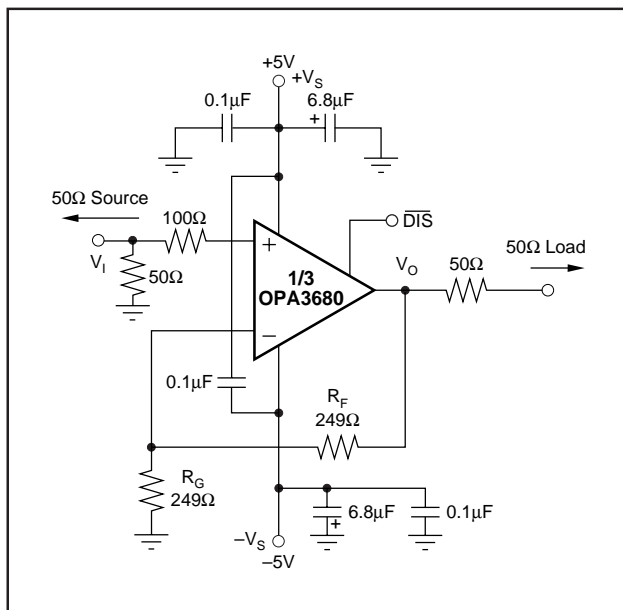
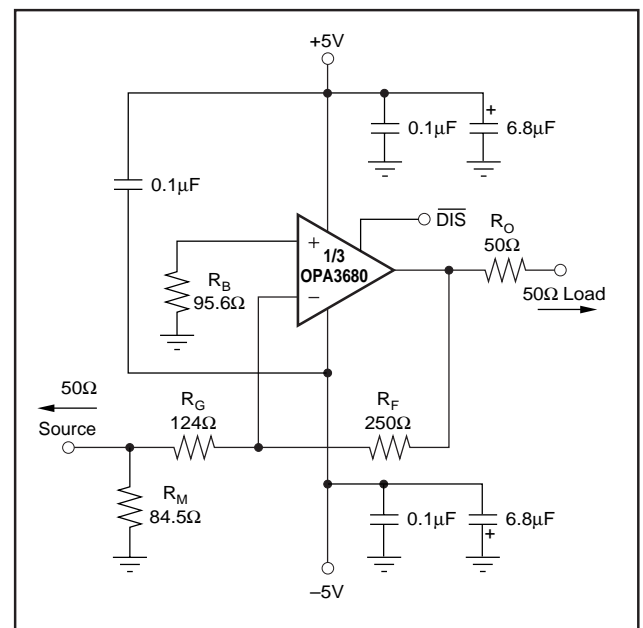

FIGURE 1. DC-Coupled, G = +2, Bipolar Supply, Specification and Test Circuit.
FIGURE 9. Gain of -2 Example Circuit.
At $T_A = +25^\circ C$, $G = +2$, $R_F = 250\Omega$, and $R_L = 100\Omega$, unless otherwise noted. See Figure 1.
Figure 1 shows the DC-coupled, gain of +2, dual power supply circuit configuration used as the basis of the ±5V Specifications and Typical Performance Curves. For test purposes, the input impedance is set to 50Ω with a resistor to ground and the output impedance is set to 50Ω with a series output resistor. Voltage swings reported in the specifications are taken directly at the input and output pins, while output powers (dBm) are at the matched 50Ω load. For the circuit of Figure 1, the total effective load will be 100Ω || 498Ω. The disable control line is typically left open to guarantee normal amplifier operation. Two optional components are included in Figure 1. An additional resistor (100Ω) is included in series with the non-inverting input. Combined with the 25Ω DC source resistance looking back towards the signal generator, this gives an input bias current cancelling resistance that
A good rule of thumb is to target the parallel combination of R_F and R_G (Figure 1) to be less than approximately 125Ω. The combined impedance $R_F \parallel R_G$ interacts with the inverting input capacitance, placing an additional pole in the feedback network and thus, a zero in the forward response. Assuming a 3pF total parasitic on the inverting node, holding $R_F \parallel R_G < 125\Omega$ will keep this pole above 400MHz. By itself, this constraint implies that the feedback resistor R_F can increase to several kΩ at high gains. This is acceptable as long as the pole formed by R_F and any parasitic capacitance appearing in parallel with it is kept out of the frequency range of interest.
Voltage-feedback op amps exhibit decreasing closed-loop bandwidth as the signal gain is increased. In theory, this relationship is described by the Gain Bandwidth Product (GBP) shown in the specifications. Ideally, dividing GBP by the non-inverting signal gain (also called the Noise Gain, or NG) will predict the closed-loop bandwidth. In practice, this only holds true when the phase margin approaches 90°, as it does in high gain configurations. At low gains (increased feedback factors), most amplifiers will exhibit a more complex response with lower phase margin. The OPA3680 is compensated to give a slightly peaked response in a non-inverting gain of 2 (Figure 1). This results in a typical gain of +2 bandwidth of 220MHz, far exceeding that predicted by dividing the 300MHz GBP by 2. Increasing the gain will cause the phase margin to approach 90° and the bandwidth to more closely approach the predicted value of (GBP/NG). At a gain of +10, the 30MHz bandwidth shown in the Typical Specifications agrees with that predicted using the simple formula and the typical GBP of 300MHz.
Frequency response in a gain of +2 may be modified to achieve exceptional flatness simply by increasing the noise gain to 2.5. One way to do this, without affecting the +2 signal gain, is to add a 453Ω resistor across the two inputs in the circuit of Figure 1. A similar technique may be used to reduce peaking in unity gain (voltage follower) applica-
Since the OPA3680 is a general purpose, wideband voltage feedback op amp, all of the familiar op amp application circuits are available to the designer. Inverting operation is one of the more common requirements and offers several performance benefits. Figure 9 shows a typical inverting configuration where the I/O impedances and signal gain from Figure 1 are retained in an inverting circuit configuration.
advantage that the noise gain becomes equal to 2 for a 50Ω source impedance—the same as the non-inverting circuits considered above. However, the amplifier output will now see the 100Ω feedback resistor in parallel with the external load. In general, the feedback resistor should be limited to the 100Ω to 1.5kΩ range. In this case, it is preferable to increase both the R_F and R_G values as shown in Figure 9 and then achieve the input matching impedance with a third resistor (R_M) to ground. The total input impedance becomes the parallel combination of R_G and R_M .
The second major consideration, touched on in the previous paragraph, is that the signal source impedance becomes part of the noise gain equation and hence influences the bandwidth. For the example in Figure 9, the R_M value combines in parallel with the external 50Ω source impedance, yielding an effective driving impedance of $50\Omega \parallel 84.5\Omega = 31.4\Omega$. This impedance is added in series with R_G for calculating the noise gain (NG). The resultant NG is 2.6 for Figure 9, as opposed to only 2 if R_M could be eliminated as discussed above. The bandwidth will therefore be slightly lower for the gain of -2 circuit of Figure 9 than for the gain of $+2$ circuit of Figure 1.
The third important consideration in inverting amplifier design is setting the bias current cancellation resistor on the non-inverting input (R_B). If this resistor is set equal to the total DC resistance looking out of the inverting node, the output DC error, due to the input bias currents, will be reduced to (Input Offset Current) • R_F . If the 50Ω source impedance is DC-coupled in Figure 9, the total resistance to ground on the inverting input will be 155Ω. Combining this in parallel with the feedback resistor gives the $R_B = 95.6\Omega$ used in this example. To reduce the additional high frequency noise introduced by this resistor, it is sometimes bypassed with a capacitor. As long as $R_B < 350\Omega$, the capacitor is not required since the total noise contribution of all other terms will be less than that of the op amp's input noise voltage. As a minimum, the OPA3680 requires an R_B value of 50Ω to damp out parasitic-induced peaking—a direct short to ground on the non-inverting input runs the risk of a very high frequency instability in the input stage.
The distortion plots show which changes in operation will improve distortion. Increasing the load impedance improves distortion directly. Remember that the total load includes the feedback network; in the non-inverting configuration (Figure 1) this is sum of $R_F + R_G$, while in the inverting configuration (Figure 9), it is just R_F . Also, providing an additional supply decoupling capacitor (0.1μF) between the supply pins (for bipolar operation) improves the 2nd-order distortion slightly (3dB to 6dB).
Evaluating these two equations for the OPA3680 circuit and component values shown in Figure 1 will give a total output spot noise voltage of $11\text{nV}/\sqrt{\text{Hz}}$ and a total equivalent input spot noise voltage of $5.5\text{nV}/\sqrt{\text{Hz}}$. This is including the noise added by the bias current cancellation resistor (100Ω) on the non-inverting input. This total input-referred spot noise voltage is only slightly higher than the $4.8\text{nV}/\sqrt{\text{Hz}}$ specification for the op amp voltage noise alone. This will be the case as long as the impedances appearing at each op amp input are limited to the previously recommend maximum value of 125Ω . Keeping both $(R_F \parallel R_G)$ and the non-inverting input source impedance less than 125Ω will satisfy both noise and frequency response flatness considerations. Since the resistor-induced noise is relatively negligible, additional capacitive decoupling across the bias current cancellation resistor (R_B) for the inverting op amp configuration of Figure 9 is not required.
The balanced input stage of a wideband voltage feedback op amp allows good output DC accuracy in a wide variety of applications. The power supply current trim for the OPA3680 gives even tighter control than comparable products. Although the high speed input stage does require relatively high input bias current (typically $14\mu\text{A}$ out of each input terminal), the close matching between them may be used to reduce the output DC error caused by this current. The total output offset voltage may be considerably reduced by matching the DC source resistances appearing at the two inputs. This reduces the output DC error due to the input bias currents to the offset current times the feedback resistor. Evaluating the configuration of Figure 1, using worst-case $+25^\circ\text{C}$ input offset voltage and current specifications, gives